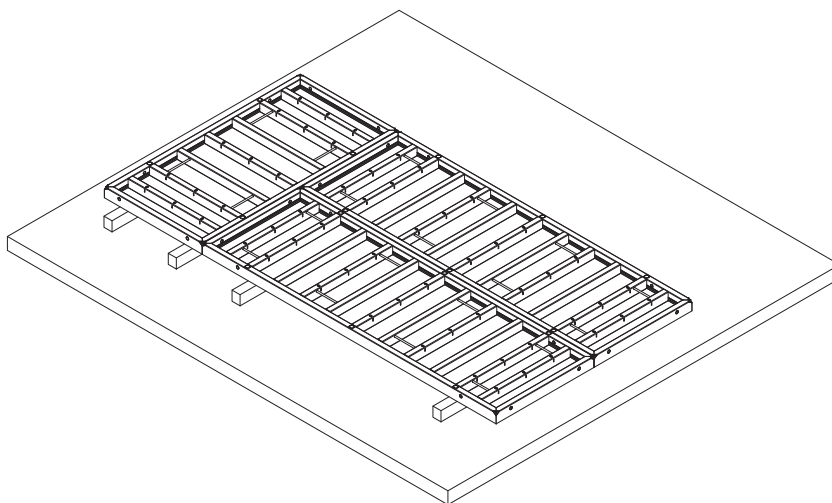

Fig. 59.2
4. Lift the panel up, then lay it face down in the gang assembly area, arranging it with other panels needed for the gang (Fig. 59.2).